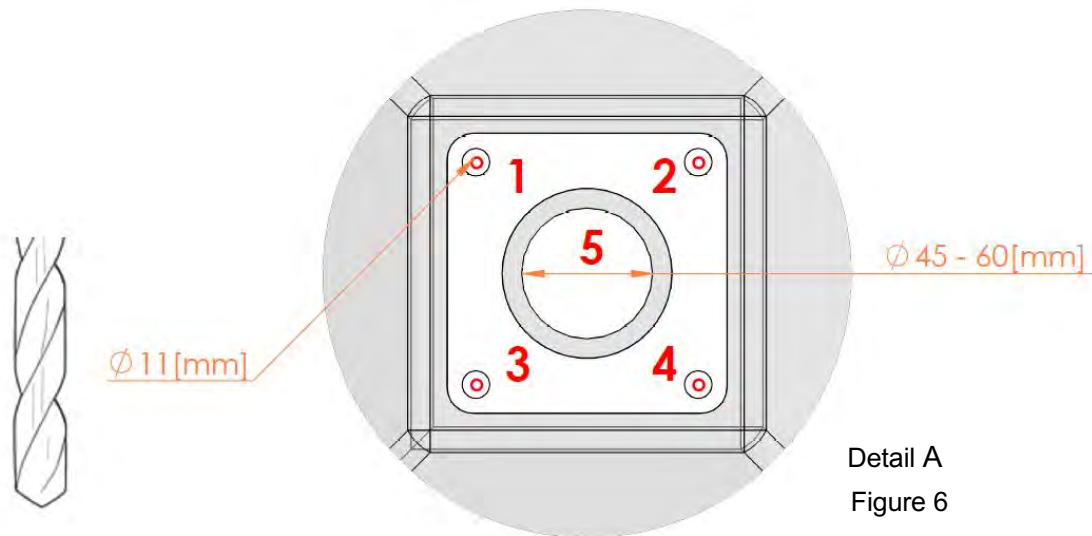
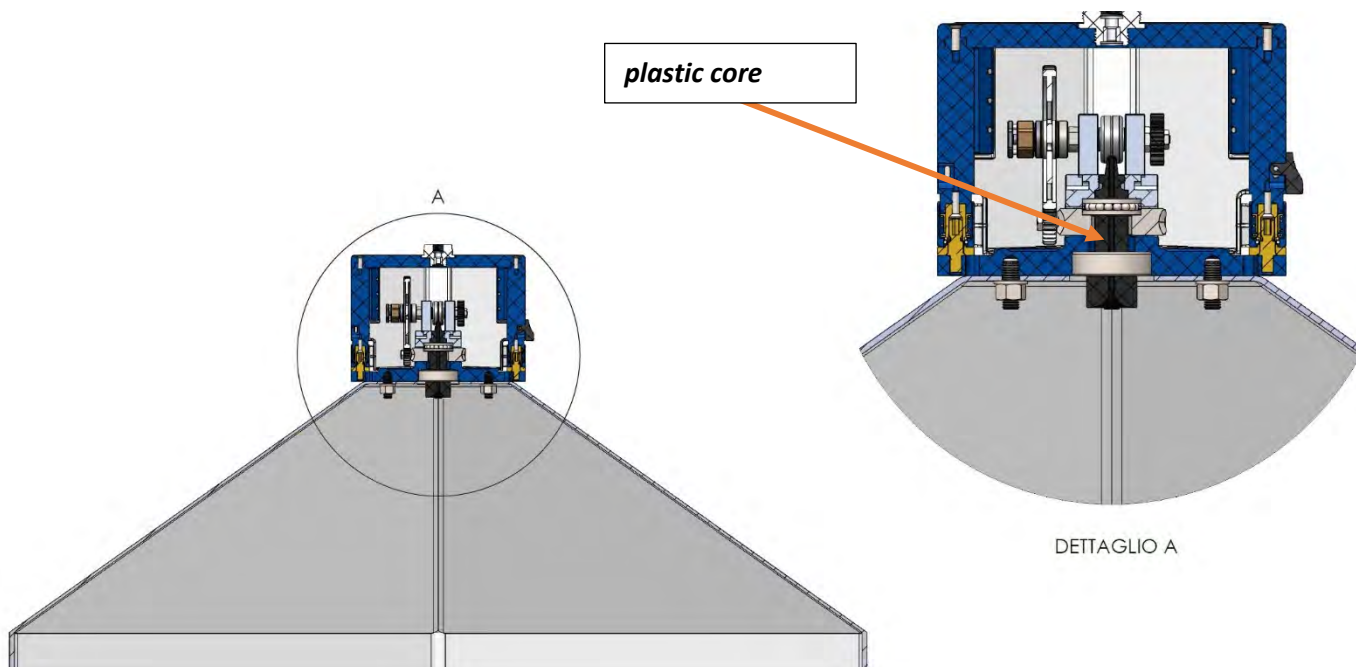

Figure 8
Figure 11
2. Drill the dome carefully matching the diameters shown in figure 8;
The central hole no.5 (figure 8) of the hood must be drilled or cut respecting the indicated diameter (min 45 max 60 mm). Drilling a hole with a smaller diameter than the one shown below can compromise the functioning of the device, as it could prevent the free rotation of the plastic core where the wire enters the twister. See Figure 11.
5. Finally, fix the Twister by tightening the nuts back and making sure that the washers are correctly positioned. Figure 11.